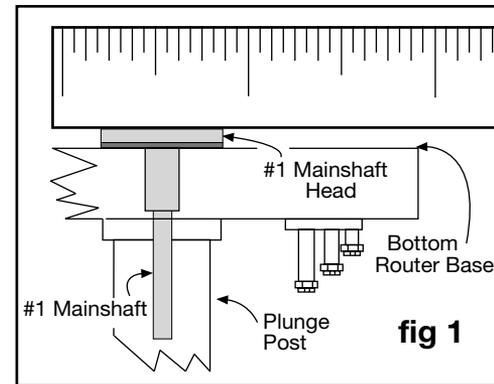

fig 1
1. Use (fig 1) to locate the spring cover cap and rack and pinion or free plunge dial. Set the dial to rack and pinion and raise router to its highest un-plunged position, engage plunge lock.
1. With router at highest un-plunged position, use (fig 1) remove the six phillips screws and two black knobs securing the clear plastic dust guard. Remove and set guard pieces aside.
3. The original one piece plunge post roll pin must be replaced with two separate roll pins. Select #2 green-drive pin and two #5 red roll pins. Using (fig 1) locate the plunge post roll pin (cover cap side). Using fig 5 align #2 green drive pin with original roll pin, using hammer drive #2 drive pin in until roll pin is removed.
Using fig 1 support router upside down on bench and place locating pin into bottom of #1 mainshaft head. Secure subbase to router base gently tightening screws. Using a hammer gently tap the subbase over the pin. Remove subbase and drill hole on center punch mark using the Router Raizer template instructions.
On some routers the #1 mainshaft head may not be flush with the bottom of the router base. Shown fig 1.
To determine if mainshaft head is flush. sight, or lay a straight edge over the #1 mainshaft head. Shown fig 1. If head is below flush or flush with the base, proceed to step two below. If head is above the base proceed to back of page.
- 1. Removing dust cover:** Using (fig 1) place #29 speed wrench over #31 dust cover, lift speed-wrench to remove dust cover. Leave dust cover on wrench while making height adjustments.